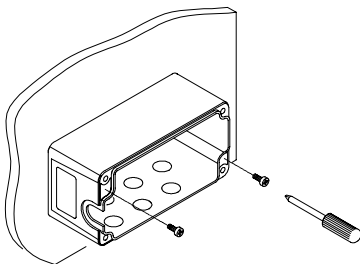

Figure 2.6 - Mounting DP1000
- 2) Align the DP1000 and insert the two self-threading screws with their washers and screw them into the panel until tight (see figure 2.6).